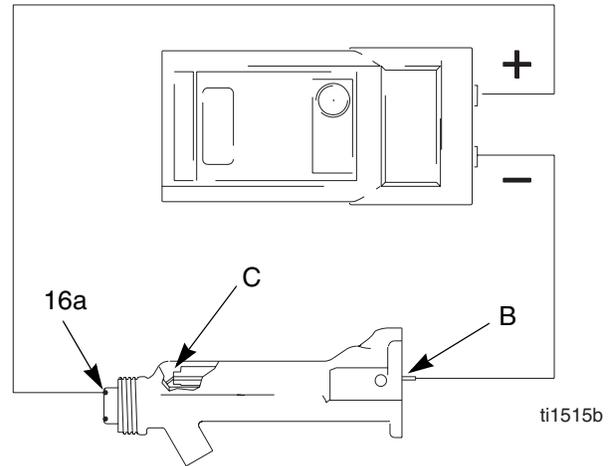

Fig. 7. Test Barrel Resistance
1. Insert a conductive rod (B) into the gun barrel (removed for the power supply test) and against the metal contact (C) in the front of the barrel.
2. Measure the resistance between the conductive rod (B) and the barrel contact ring (16a). See FIG. 7. The resistance should be 19-29 megohms. If the resistance is incorrect, make sure the metal contact (C) in the barrel and the barrel contact ring (16a) are clean and undamaged.
3. If the resistance is still outside the range, remove the barrel contact ring (16a) and measure the resistance between the conductive rod (B) and the wire lead at the bottom of the contact ring groove.